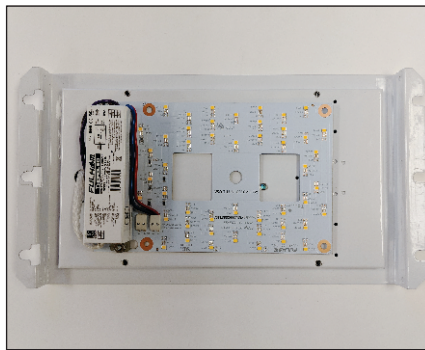

Figure 3
3. Place the DC Engine (A) onto the luminaire back plate as shown in Figure 3.